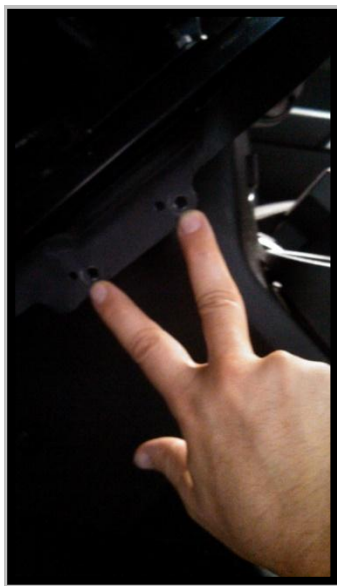
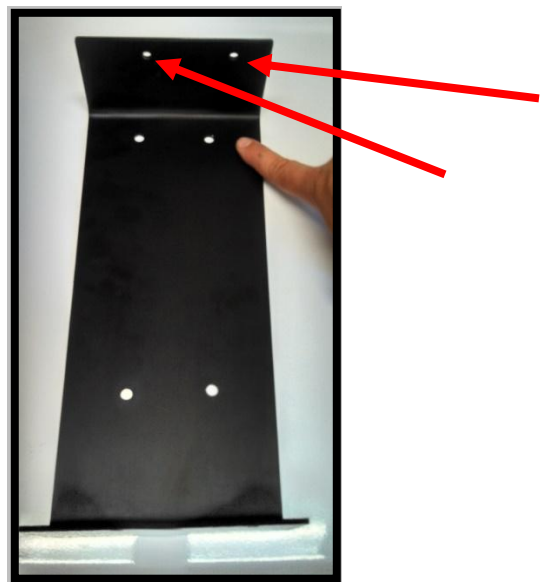

Figure 9
Figure 10
- 2-G) The provided bracket will be bolted to the inner side seat frame rail (towards center of vehicle) using the two holes shown in **Figure 9** (the lower, larger holes). Make sure the bracket is oriented as shown in **Figure 10** with the red arrows indicating the mounting holes.